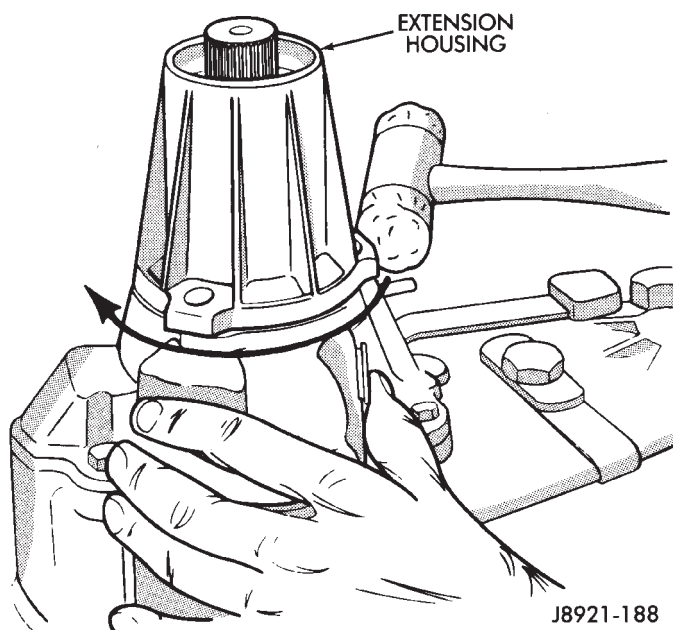

Fig. 1 Extension Housing Removal
- (1) Remove fill and drain plugs. Also remove speedometer adapter and pinion if not previously removed.
- (2) Remove front yoke. Discard yoke seal washer and nut. They should not be reused.
- (3) Move transfer case range lever rearward to 4L position.
- (4) Remove extension housing attaching bolts.
- (5) Tap extension housing in clockwise direction to break sealer bead and remove housing (Fig. 1).